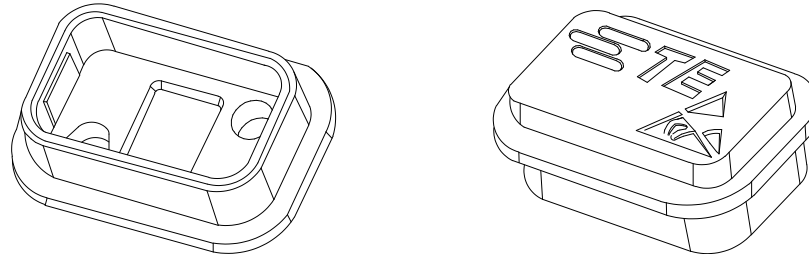

Figure 4
C. Protective Cover (Figure 4)